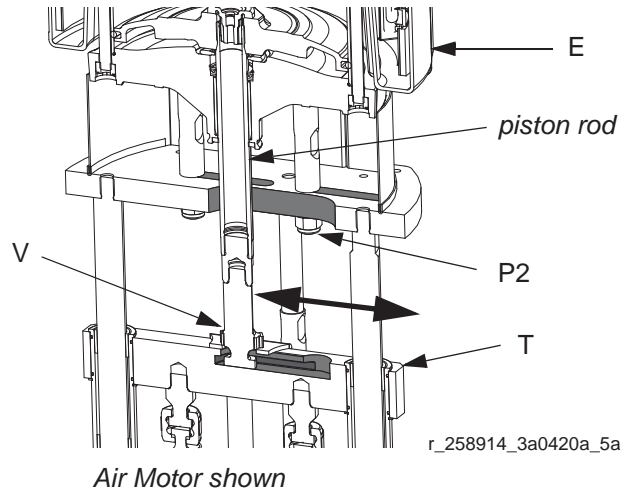

FIG. 8
5. Grab the piston rod and slide the position of the motor (E) until the indicator lines are aligned with your ratio. See FIG. 7 and FIG. 8.